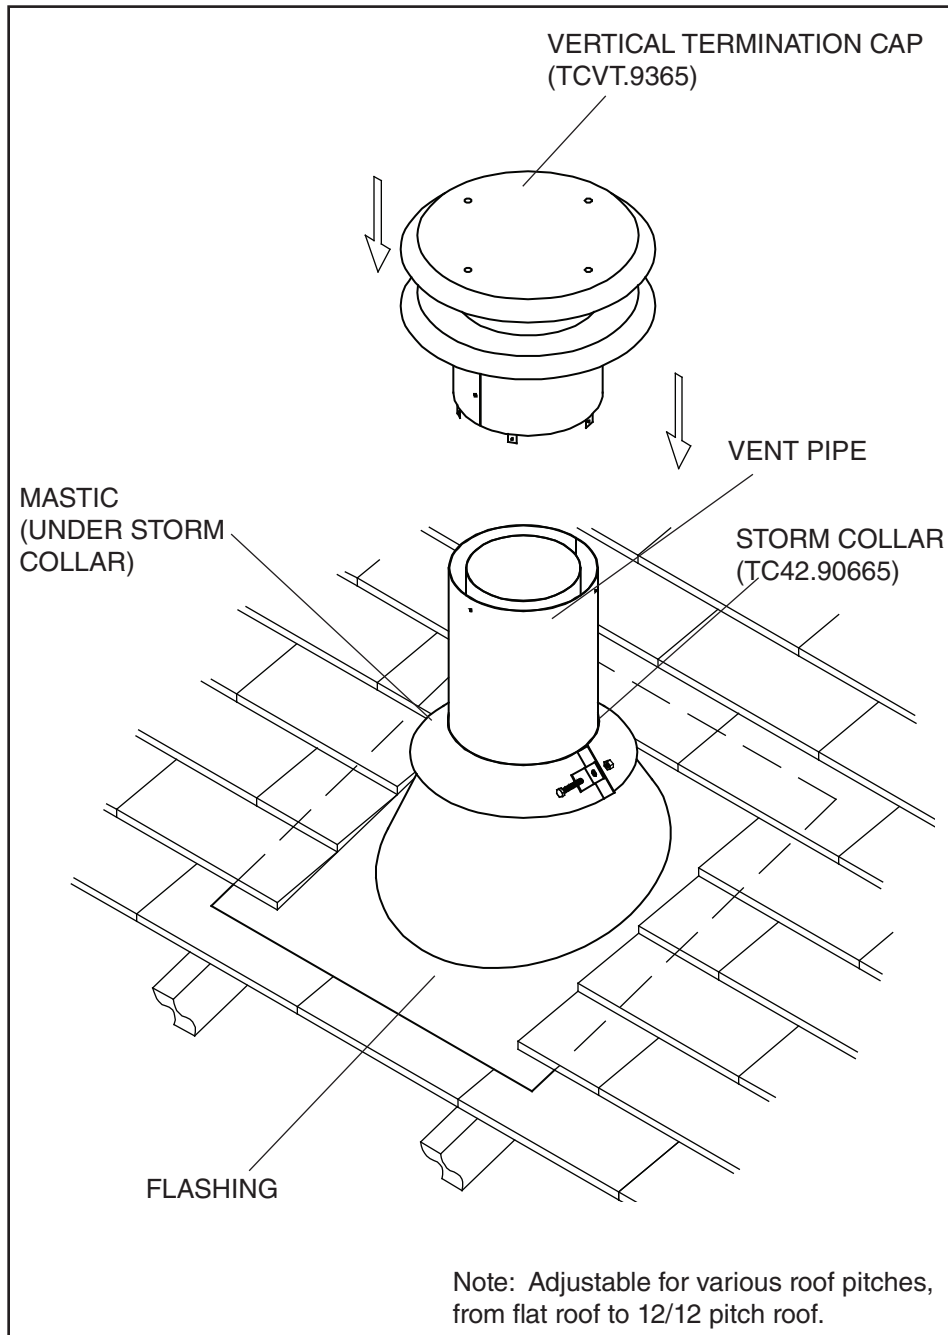

Figure 39: Roof terminal.
1. Place the roof flashing over the vent pipe, secure and seal it to the roof using the methods and materials appropriate for the type of roof on the building. Shingle roof example shown (Figure 39).
2. Place the storm collar down over the vent pipe until it is level. Tighten storm collar for a snug fit. Apply a thick horizontal ring of mastic around the pipe at top of the storm collar. (Figure 39).
3. Lower the roof vent terminal cap over the vent pipe and secure in place with screws provided. (Figure 39) Seal screw heads and joints with caulking to prevent any moisture entering the venting system.